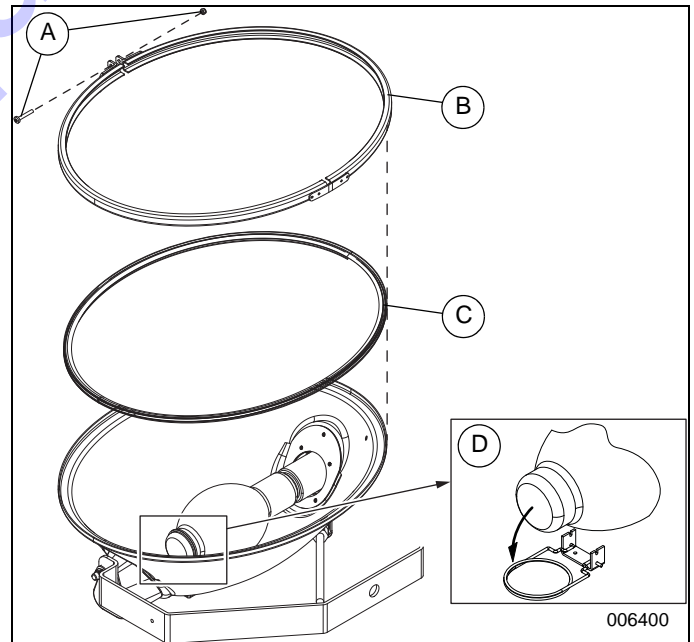

Figure 3. Bulb Removal
9. See **Figure 3**. Remove bulbs from light fixtures: Remove hardware (A), lid (B), and gasket (C). Unfasten bulb support (D). Remove and retain bulb.
4. See Figure 3. Remove bulbs from light fixtures as follows: Remove hardware (A). Remove lid (B) and gasket (C). Unfasten bulb support, as illustrated (D). Finally, remove and retain bulb.